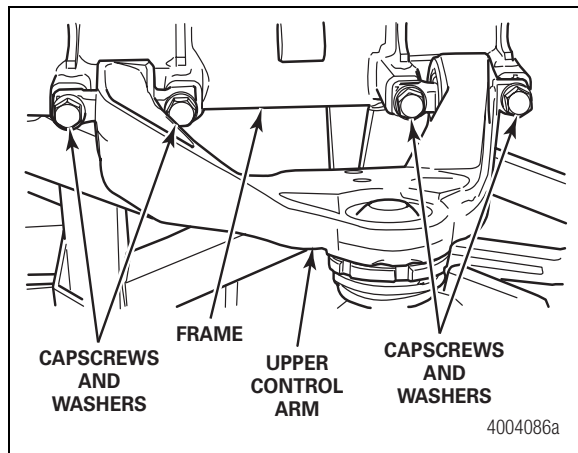

Figure 5.10
- Remove the four capscrews and washers that secure the upper control arm to the suspension subframe. Remove the upper control arm. Figure 5.10.